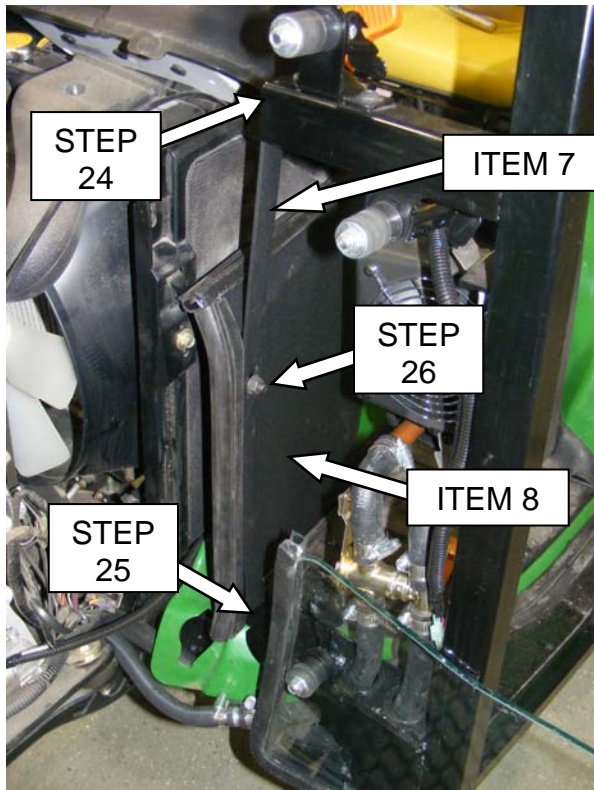

Figure 12
- 24) Install air intake mount bar (Item 7) as shown in Figures 12 & 13. Secure the top of bar by using the inside window bracket hardware.
- 25) Secure the bottom of mount bar using (1) 5/16" x 7/8" long socket-button head bolt and (1) 5/16" flange nut.
- 26) Place LH air intake panel (Item 8) around the tractor cowl area. Secure panel to mount bar installed in step 22, using (1) 5/16" x 7/8" long socket-button head bolt and (1) 5/16" flange nut.